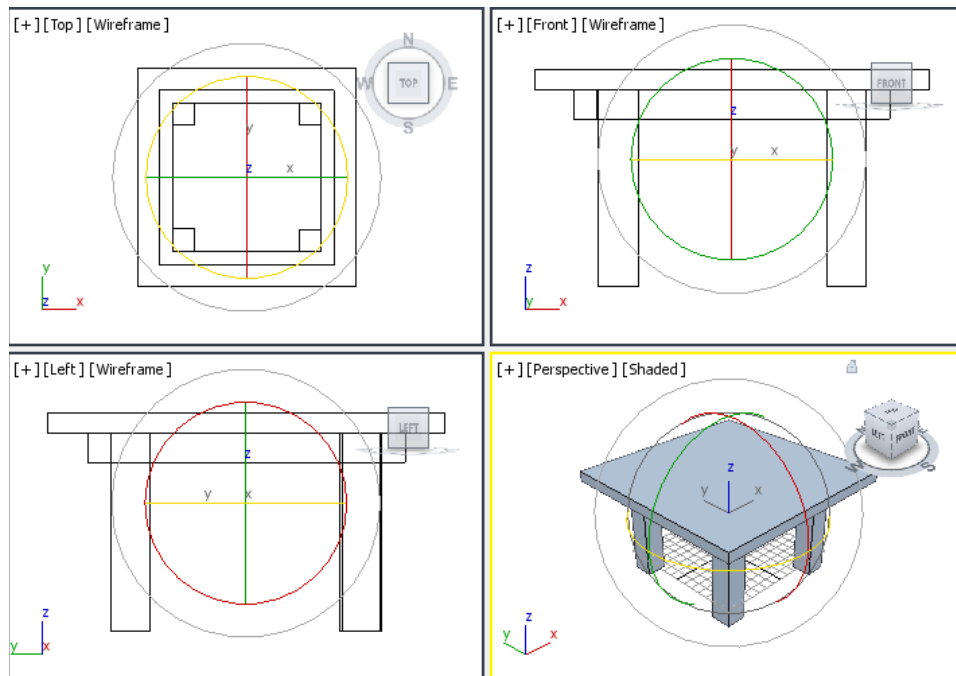

Figure 5-8 Table rotated upright to stand on its legs
3. Right-click on the **Select and Rotate** tool in the **Main Toolbar**; the **Rotate Transform Type-In** dialog box is displayed. Set the value **180** in the **Z** spinner in the **Offset:Screen** area of this dialog box and then press the ENTER key; *Table* is rotated in upright position, as shown in Figure 5-8. Next, close this dialog box.
4. Invoke the **Zoom Extents All** tool from viewport navigation controls; *Table* is zoomed to its extents in all four viewports after rotated upright to stand on its legs, refer to Figure 5-8.